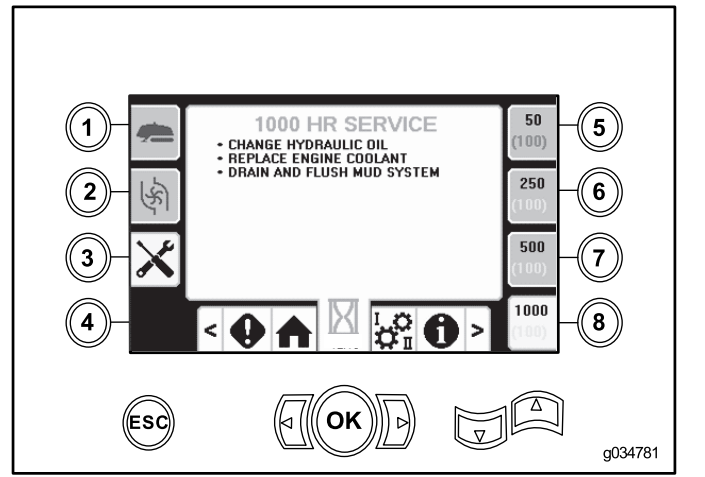

Figure 46
- Button 8—1,000-hour maintenance schedule (Figure 46)